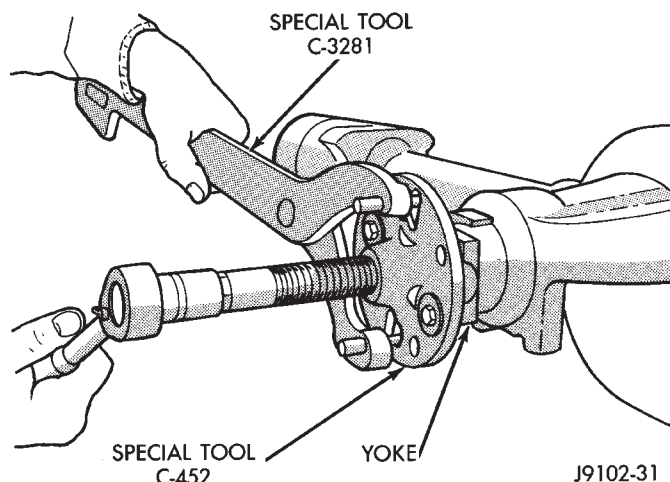

Fig. 10 Pinion Yoke Removal
- (1) Raise and support the vehicle.
- (2) Remove wheel and tire assemblies.
- (3) Remove brake rotors and calipers. Refer to Group 5, Brakes, for proper procedures.
- (4) Mark the propeller shaft and pinion yoke, or pinion flange, for installation reference.
- (5) Remove the propeller shaft from the yoke, or pinion flange.
- (6) Rotate the pinion gear three or four times.
- (7) Measure the amount of torque necessary to rotate the pinion gear with a (in. lbs.) dial-type torque wrench. Record the torque reading for installation reference.
- (8) Using a short piece of pipe and Holder 6958 to hold the pinion yoke, or pinion flange, remove the pinion nut and washer.
- (9) Use Remover C-452 and Wrench C-3281 to remove the pinion yoke, or pinion flange, (Fig. 10).